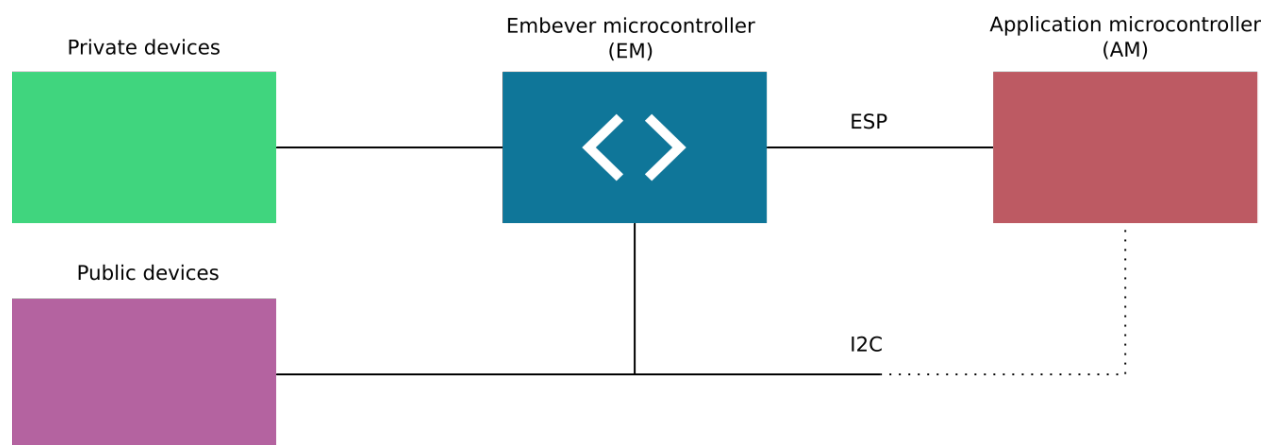

Fig. 1.1: Hardware architecture
The hardware architecture is shown in Fig. 1.1. The Embever microcontroller (EM) controls two groups of devices. The EM has exclusive access to a group of private devices, whereas the group of public devices is connected via an I2C bus, from which the EM is the master by default. An application microcontroller (AM) interacts exclusively with the EM via the Embever Serial Protocol (ESP). Optionally, the AM can also request to be the exclusive master of the I2C bus to directly interact with any public device.